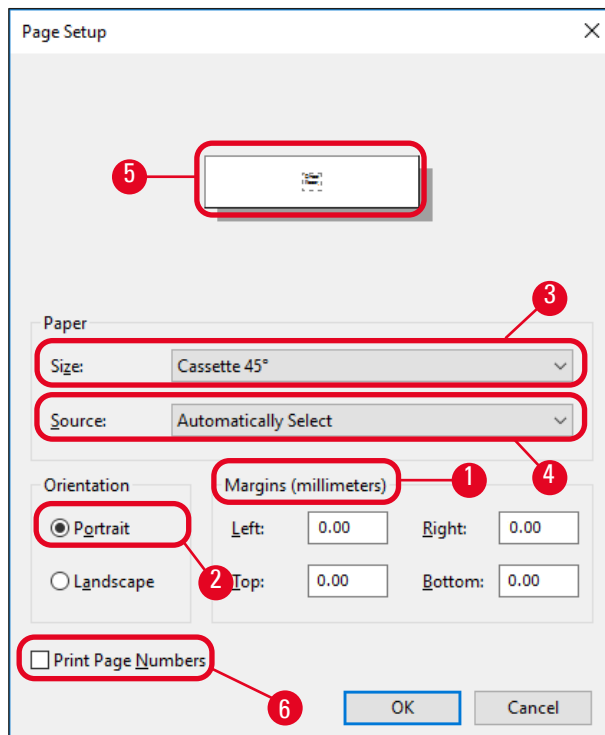

Fig. 46
3. First, the page settings must be selected: Click on **File > Page Setup** to open the **Page Setup** dialog box (→ "Fig. 46").